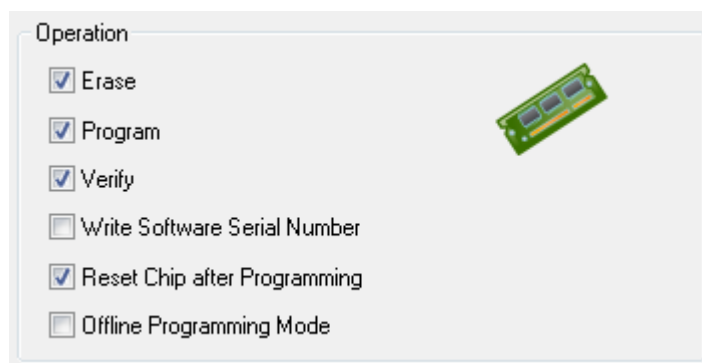

Figure 4-3 Program Option Select
- Select “**Erase**,” “**Program**,” “**Verify**,” and “**Reset Chip after Programming**” options, as shown in Figure 4-3.